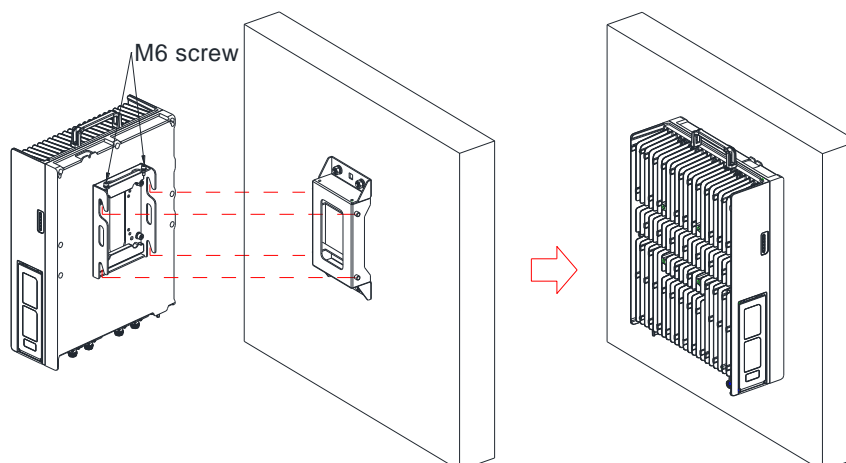
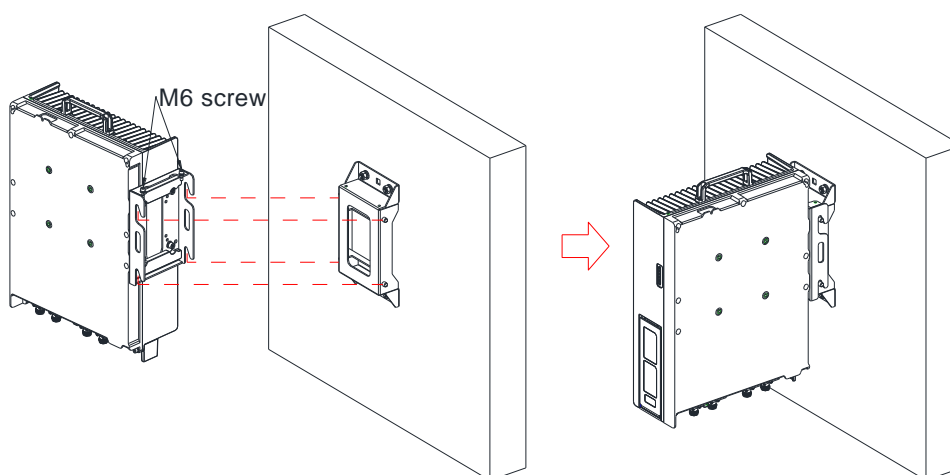

Figure 3.7-9 Fix RRU on Wall, Front Mount
Figure 3.7-10 Fix RRU on Wall, Blade Mount
Step 5: Lift the RRU and insert it into the slot of the mounting bracket from top to bottom, and fasten the M6 screws to fix the RRU. See Figure 3.7-9 and Figure 3.7-10.